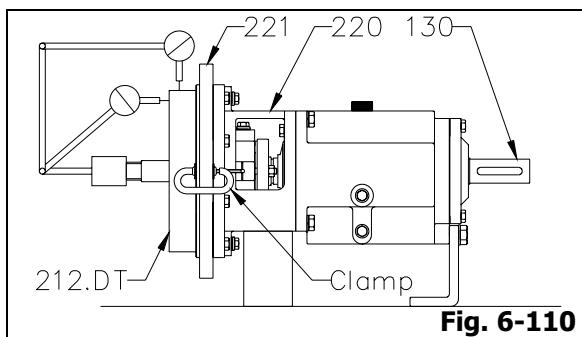

Fig. 6-110
22. Check stuffing box cover (212.DT) run out. Clamp stuffing box cover (212.DT) tight to frame adaptor (220) or adaptor extension ring (221). Rotate shaft (130) through 360°. If total indicator reading is greater than 0.13mm, determine cause and correct before proceeding (Fig. 6-110).